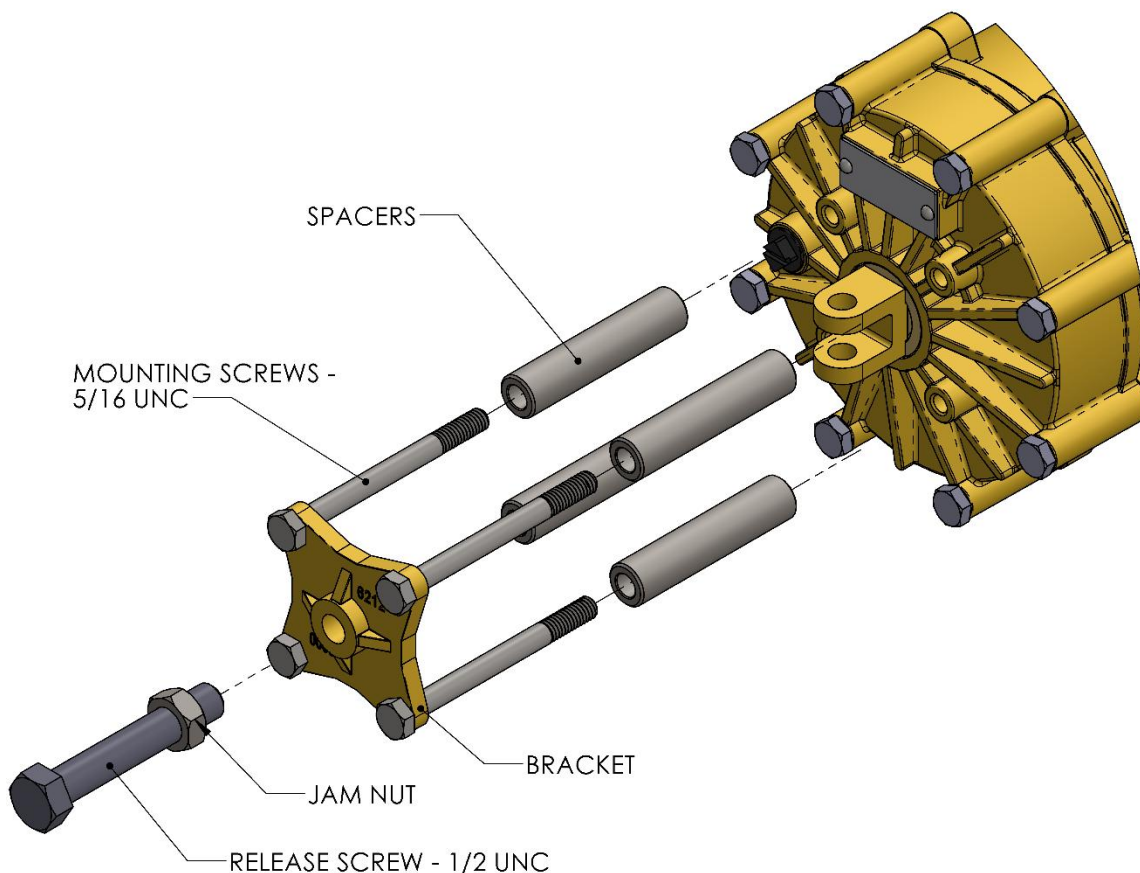

Figure 3: 6212-RLKIT Release Kit Installation
1. Refer to Figure 3 for arrangement and terminology of the release kit components.
3. Insert the mounting screws through the holes in the mounting bracket and into the spacers ensuring the components are oriented as shown in Figure 3.